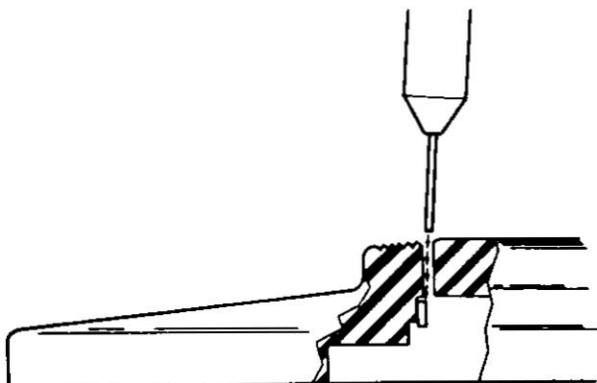

Figure 4a. Insertion. End of Standard Escutcheon Tool Engages Edge of Latching Tab and Forces it Downward.
- (1) Using a standard fingerplate removal tool, H-886316-1, insert the end into the small hole located in the ribbed area of the fingerwheel surrounding the number card just adjacent to the 6/MNO finger hole.
- (2) The end of the tool must enter at a slight angle aimed toward the 6/MNO finger hole. Once the end is seated against the latching lug (see Figure 4a), push gently downward on the tool until the lug is down and out of its latching detent (see Figure 4b).